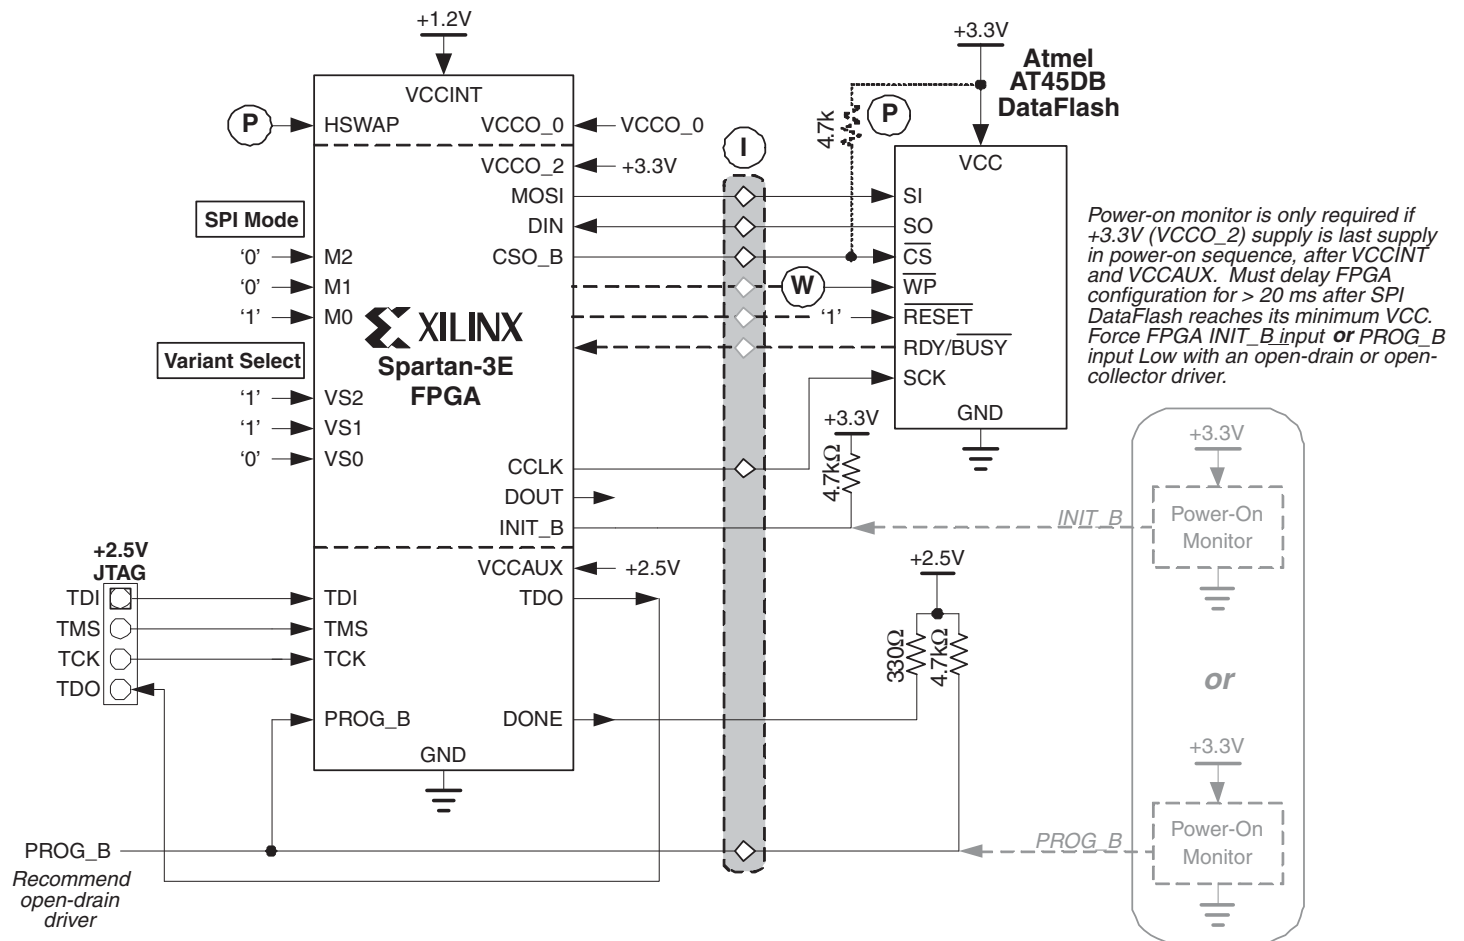

Figure 51: Atmel SPI-based DataFlash Configuration Interface
If the 3.3V supply is last in the sequence and does not ramp fast enough, or if the SPI Flash PROM cannot be ready when required by the FPGA, delay the FPGA configuration process by holding either the FPGA's PROG\_B input or INIT\_B input Low, as highlighted in Figure 51. Release the FPGA when the SPI Flash PROM is ready. For example, a simple R-C delay circuit attached to the INIT\_B pin forces the FPGA to wait for a preselected amount of time. Alternately, a Power Good signal from the 3.3V supply or a system reset signal accomplishes the same purpose. Use an open-drain or open-collector output when driving PROG\_B or INIT\_B.
① In a production application, the SPI Flash PROM is usually pre-programmed before it is mounted on the printed circuit board. In-system programming support is available from some third-party PROM programmers using a socket adapter with attached wires. To gain access to the SPI Flash signals, drive the FPGA's PROG\_B input Low with an open-drain driver. This action places all FPGA I/O pins, including those attached to the SPI Flash, in high-impedance (Hi-Z). If the HSWAP input is High, the I/Os have pull-up resistors to the VCCO input on their respective I/O bank. The external programming hardware then has direct access to the SPI Flash pins. The programming access points are highlighted in the gray box in Figure 50, Figure 51, and Figure 54.